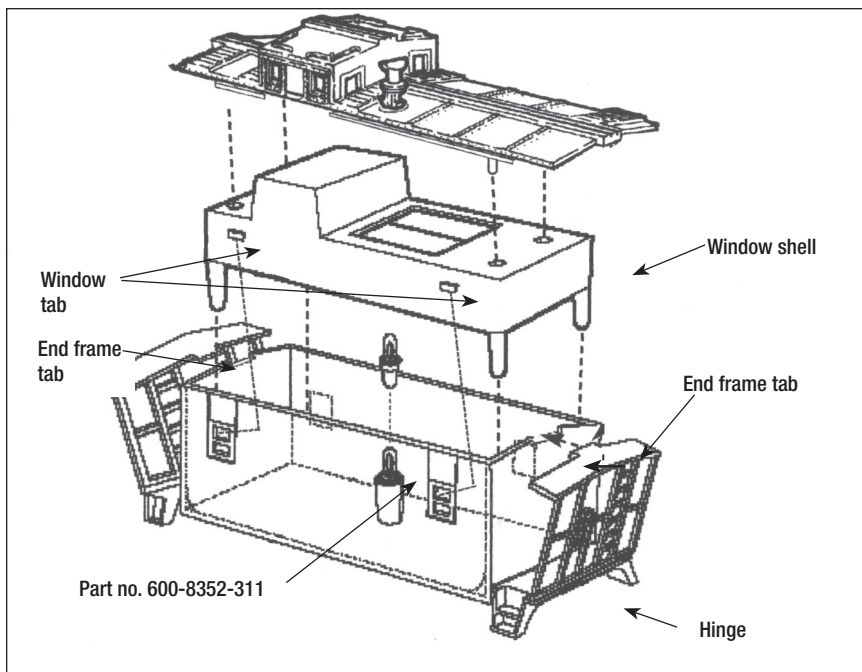

Figure 14. Caboose lamp replacement
**D**uring the course of normal operations, the lamp inside your caboose may require replacement. Follow these steps and refer to Figure 14.